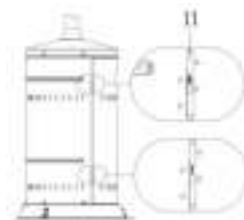

Fig. 2
Tighten inner gas pipe (16) to main burner (See Fig. 2). Then fix main burner to the post with 3 bolts M5*12 and 3pcs washers. (Detail Fig. E)